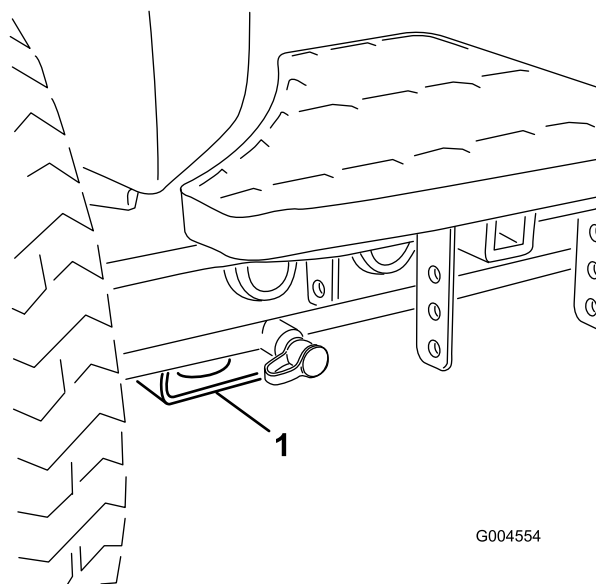

Figure 23
- Front—rectangular pad, under the axle tube, inside each front tire (Figure 23).